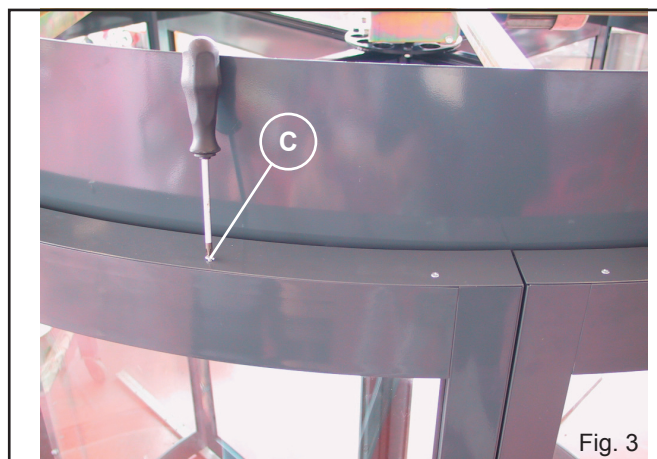

Fig. 3
- Fasten the template [G] by means of the supplied screws (TE M8x25) so as to ensure a proper horizontal doorway (PL) measure.
- Make sure the foundation base is slightly raised (C) as compared to the finished floor surface, so that the weight of the automation is carried by the foundation base only.
- (Page 7, fig. 3) Secure the base [12] into its appropriate seat.
- (Fig. 3) Slide the motor supports [14] in from the top and snap them into place.
- (Fig. 3) Fasten the kinematic motion assembly [1] on the its supports [3].
- (Fig. 3) Lift up the motor unit [1]-[3] and place it sideways on top of the supports [14]. *Attention: The motor unit weighs about 40 kg and must therefore be handled and moved*
- (Fig. 3) Align the wings with the top moveable wing supports and fasten into place by means of the screws.
- (Fig. 3) Lay the cover [21].
- 7.6 (Fig. 3) (Figure 3) Fully close the outside night-closing wings. Take off the top part of the outside night wings.
(Figure 3) Replace the top part of the outside night wings.